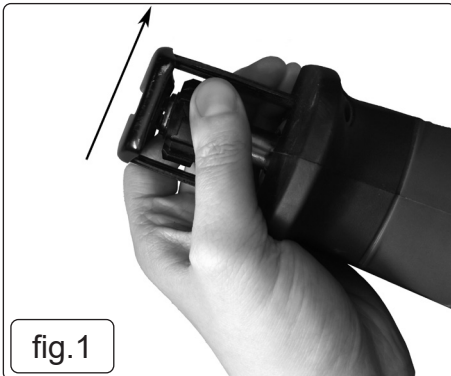

fig.1
- 4.2.1. Turn the quick-release chuck to the side and hold it in this position (fig.1).